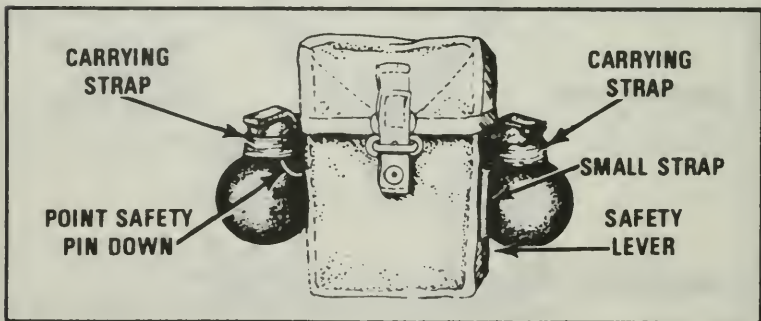

Figure 183. Grenade attached to an old style ammunition pouch.
4. Attach grenades to old style ammunition pouches (Figure 183).